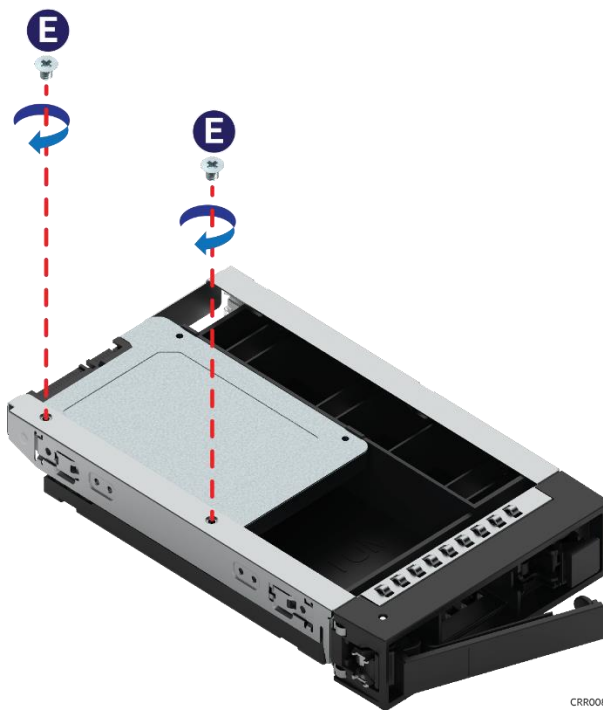

Figure 40. Installing a 2.5" SSD in a 3.5" drive carrier – secure SSD to carrier
6. Turn the assembly over. Using two (2) screws, secure the SSD to the carrier side rail (Figure 40, E).